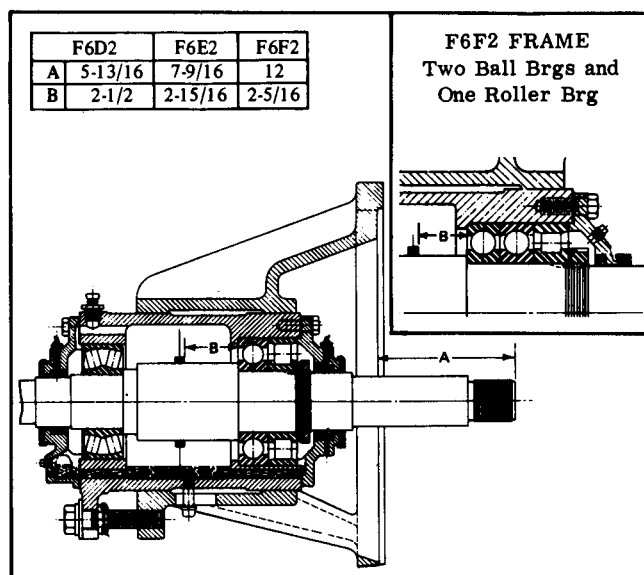

Figure 9. Rotating Element Adjustment
- b. Slip oil slinger (84 and 83 assembly) over center portion of shaft. Adjust spacing "A" and "B" in accordance with the table in Figure 9. Tighten slinger locking screws. Take care in handling the shaft from this point on as these slingers are easily bent or broken.
- j. Remove impeller and place unit in a horizontal position. Adjust liner to set dimension A per Figure 9.